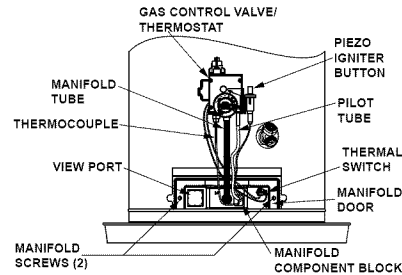

FIGURE 30.
2. On the lower front of the water heater, locate the gas control valve/thermostat (see Figure 30). Before performing any maintenance, it is important to turn the temperature dial on the gas control valve/thermostat to its lowest setting.
5. Remove the two screws securing the manifold door assembly to the combustion chamber (Figure 30).